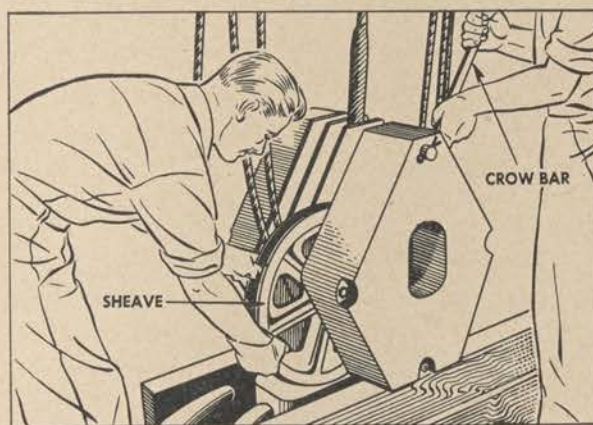

Figure 261. Load block—removing sheave.
(2) *Removing sheave from main load block (fig. 261).* (a) Lower block until hook is near deck.
(i) Use a crowbar to ease sheave out of block. (See fig. 261.)